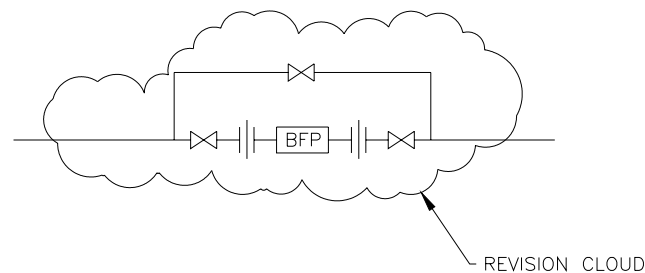

Figure 103-1
- F. Use the AutoCAD “cloud” command for revisions (layer-cloud, color- white, pen weight 0.35 mm, line type-continuous) to completely encircle the revised drawing elements. On subsequent revisions, delete the previous revision clouds. A revision cloud is illustrated in Figure 103-1.
- H. Indicate the current revision number in the “NO.” column of the revision block and “REV.” block of the title block (Figure 103-1).